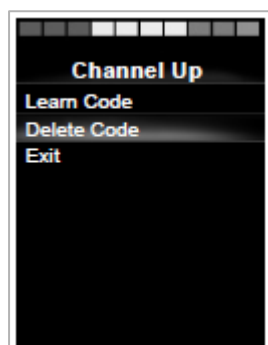

Figure 47
3. Select the Delete Code option (figure 47).